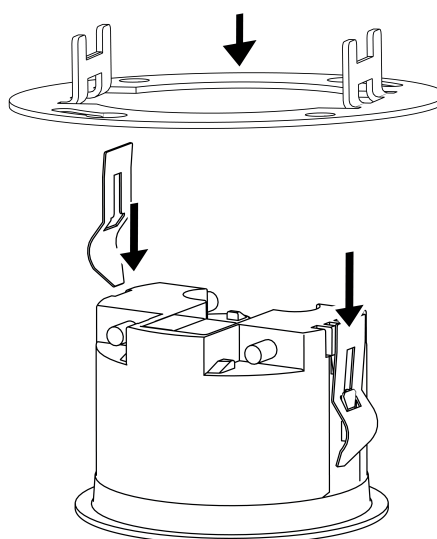

Figure 5
- Remove spring clamp (3).
- Push clamping springs (12) in the right orientation on the guides (2) from behind until they snap into place (figure 5).